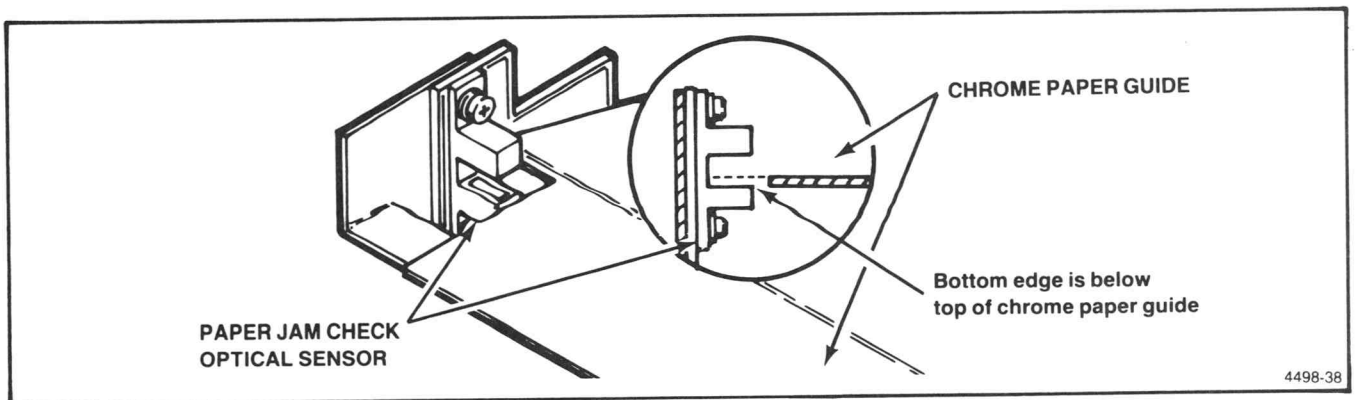

Figure 5-20. Paper Jam Check Sensor Diagram.
The Paper Jam Check Optical Sensor is located on the rear portion (when viewing the front panel of the copier) of the chrome paper guide next to the drum. The bottom edge of the optical sensor should be below the chrome paper guide (see Figure 5-20). To adjust, do the following procedure:
2. Position the circuit board so that the bottom edge of the optical sensor is just below the chrome paper guide (see Figure 5-20).